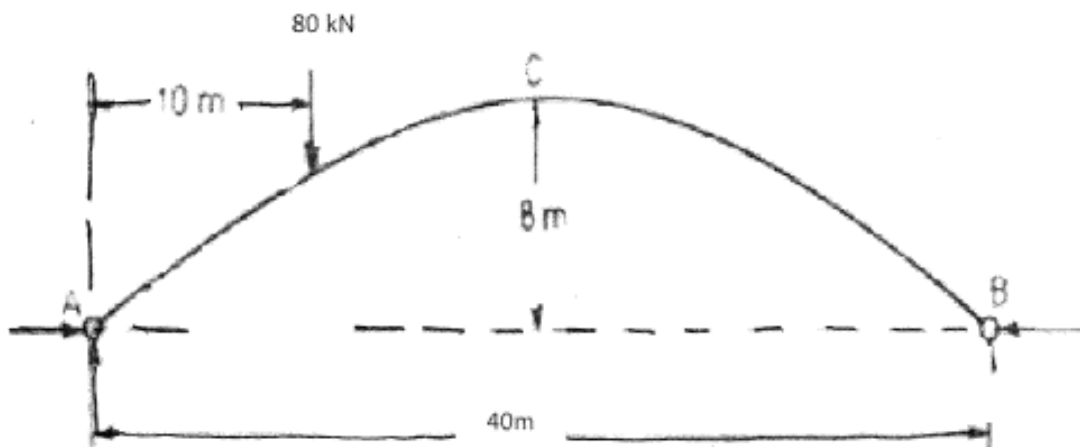

Fig.6b
- b) A two hinged parabolic arch of spam 40 m and rise 8 m carries a point load of 80 kN at a distance of 10 m from the left support. Find the horizontal thrust at each support. Find also the maximum bending moment. Refer Fig. 6b